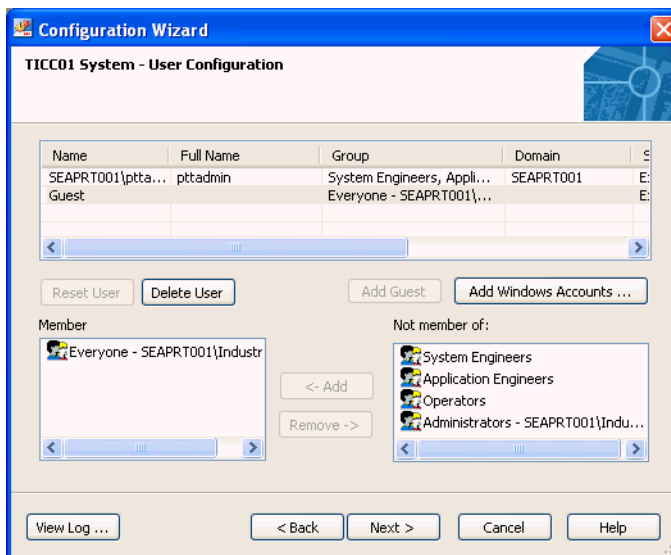

Figure 4. User Configuration Dialog Box
4. Select **Users**, see Figure 4. Now the User Configuration dialog box is displayed.
- In the User Configuration dialog box, Figure 4, it is possible to select the IndustrialIT 800xA groups of which a Windows user must be member. Select Windows user in the top window and use the **Remove** and **Add** buttons to move IndustrialIT 800xA groups to the **Member of** field.
To remove a user, select the user in the list and click **Delete**. Refer to Figure 4 for more information.